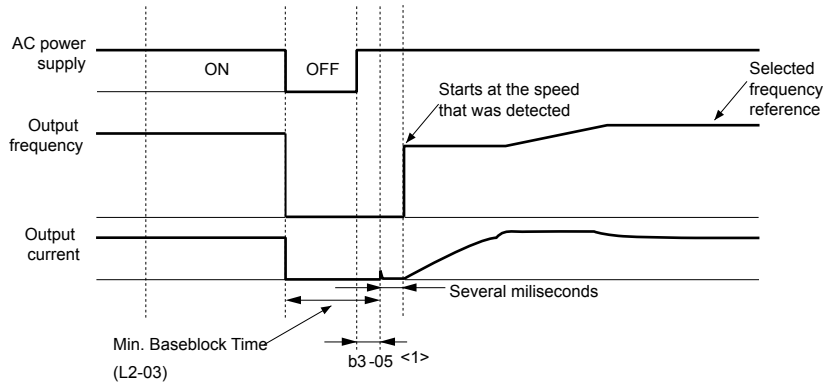

Figure 5.12 Speed Search after Baseblock
**Note:** If the Run command is quickly switched off and then back on again when the drive is set to “Coast to stop” as the stopping method, Speed Search will operate as shown in *Figure 5.12*.